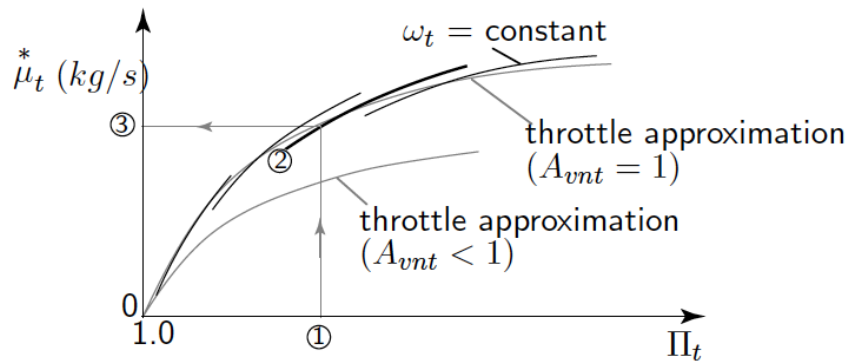

Figure 3: Gas turbine massflow behavior.
**isenthalpic valve** (see Figure 3). In particular, experimental outcomes are resumed in maps.